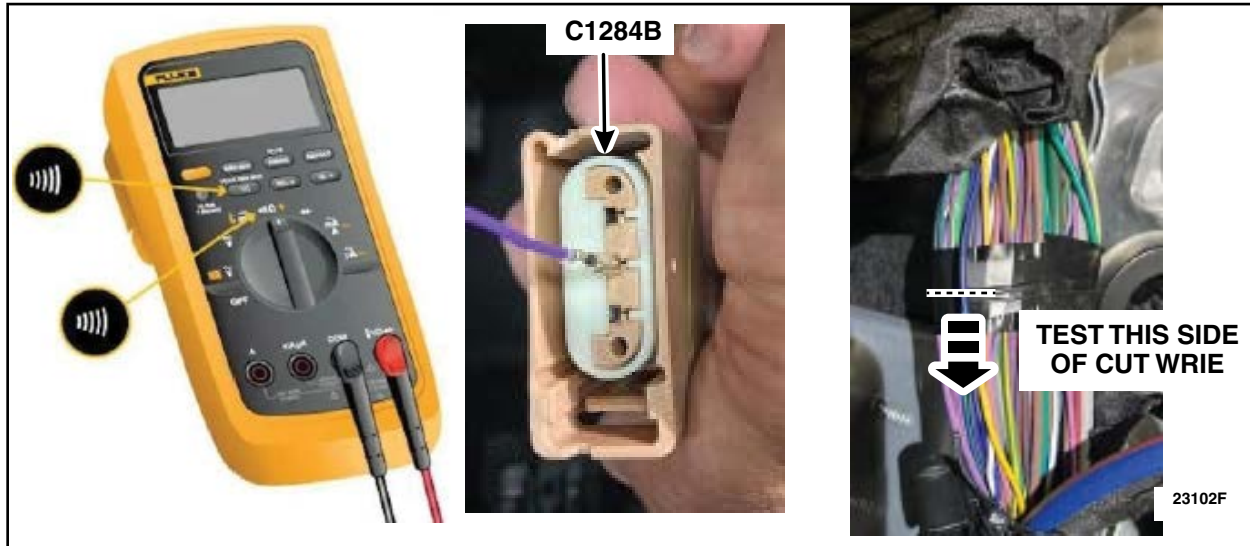

FIGURE 6
⚠ NOTICE: Test the wire going towards the headlamp as identified in Figure 6.
8. Once the identified wire has been isolated, cut and strip about 1 inch (25 mm) of the wire. Using a multimeter, test continuity from the C1284B connector, cavity 2, to the exposed circuit. See Figure 6.